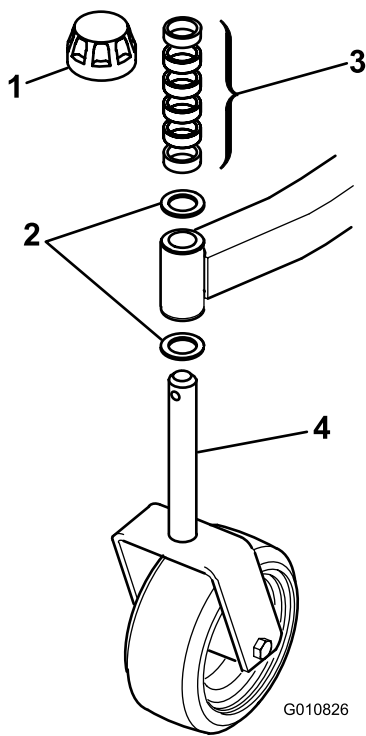
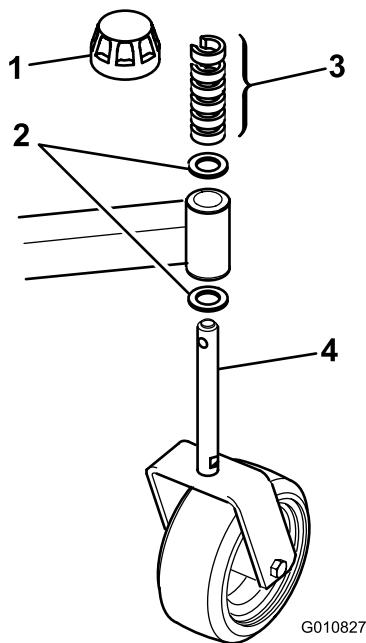

Figure 3
Figure 4
1. Remove the tensioning caps from the spindle shafts and slide off the spacers and thrust washers (Figure 3 and Figure 4).